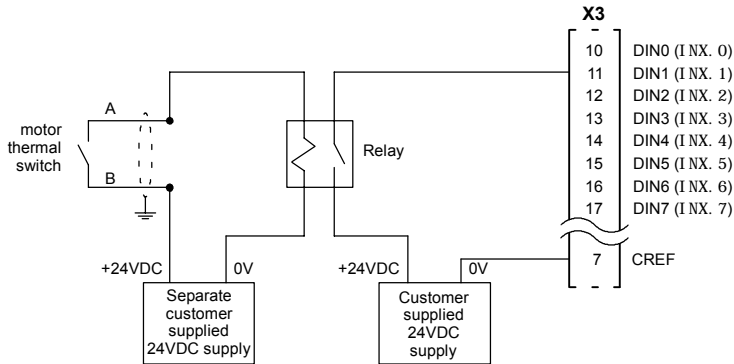

Figure 9 - Motor thermal switch circuit
You might wish to wire the motor's thermal switch contacts (normally open), using a relay, to a digital input on connector X3 (see section 4.3.1). Using the Mint keyword `MOTORTEMPERATUREINPUT`, this provides a way for the Mint program to respond to motor over-temperature conditions. A typical circuit, using DIN1 as the input, is shown in Figure 9.
**CAUTION:** The 24VDC power supply connected to the thermal switch must be a separate supply as shown in Figure 9. Do not use the 24V supply used for the drive enable signal, or the internally generated supply (if present). The thermal switch wires often carry noise that could cause erratic drive operation or damage. The thermal switch contacts must never be wired directly to a digital input.